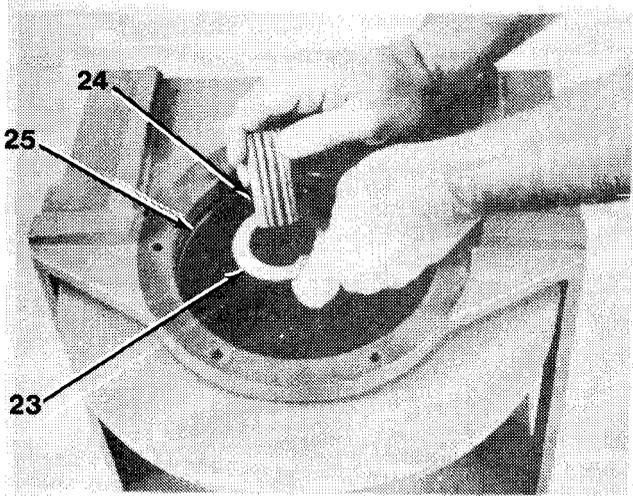

Figure 16-10
16. Remove thrust washer (23) and sun output gear (24) from output planet carrier (25, Figure 16-10).